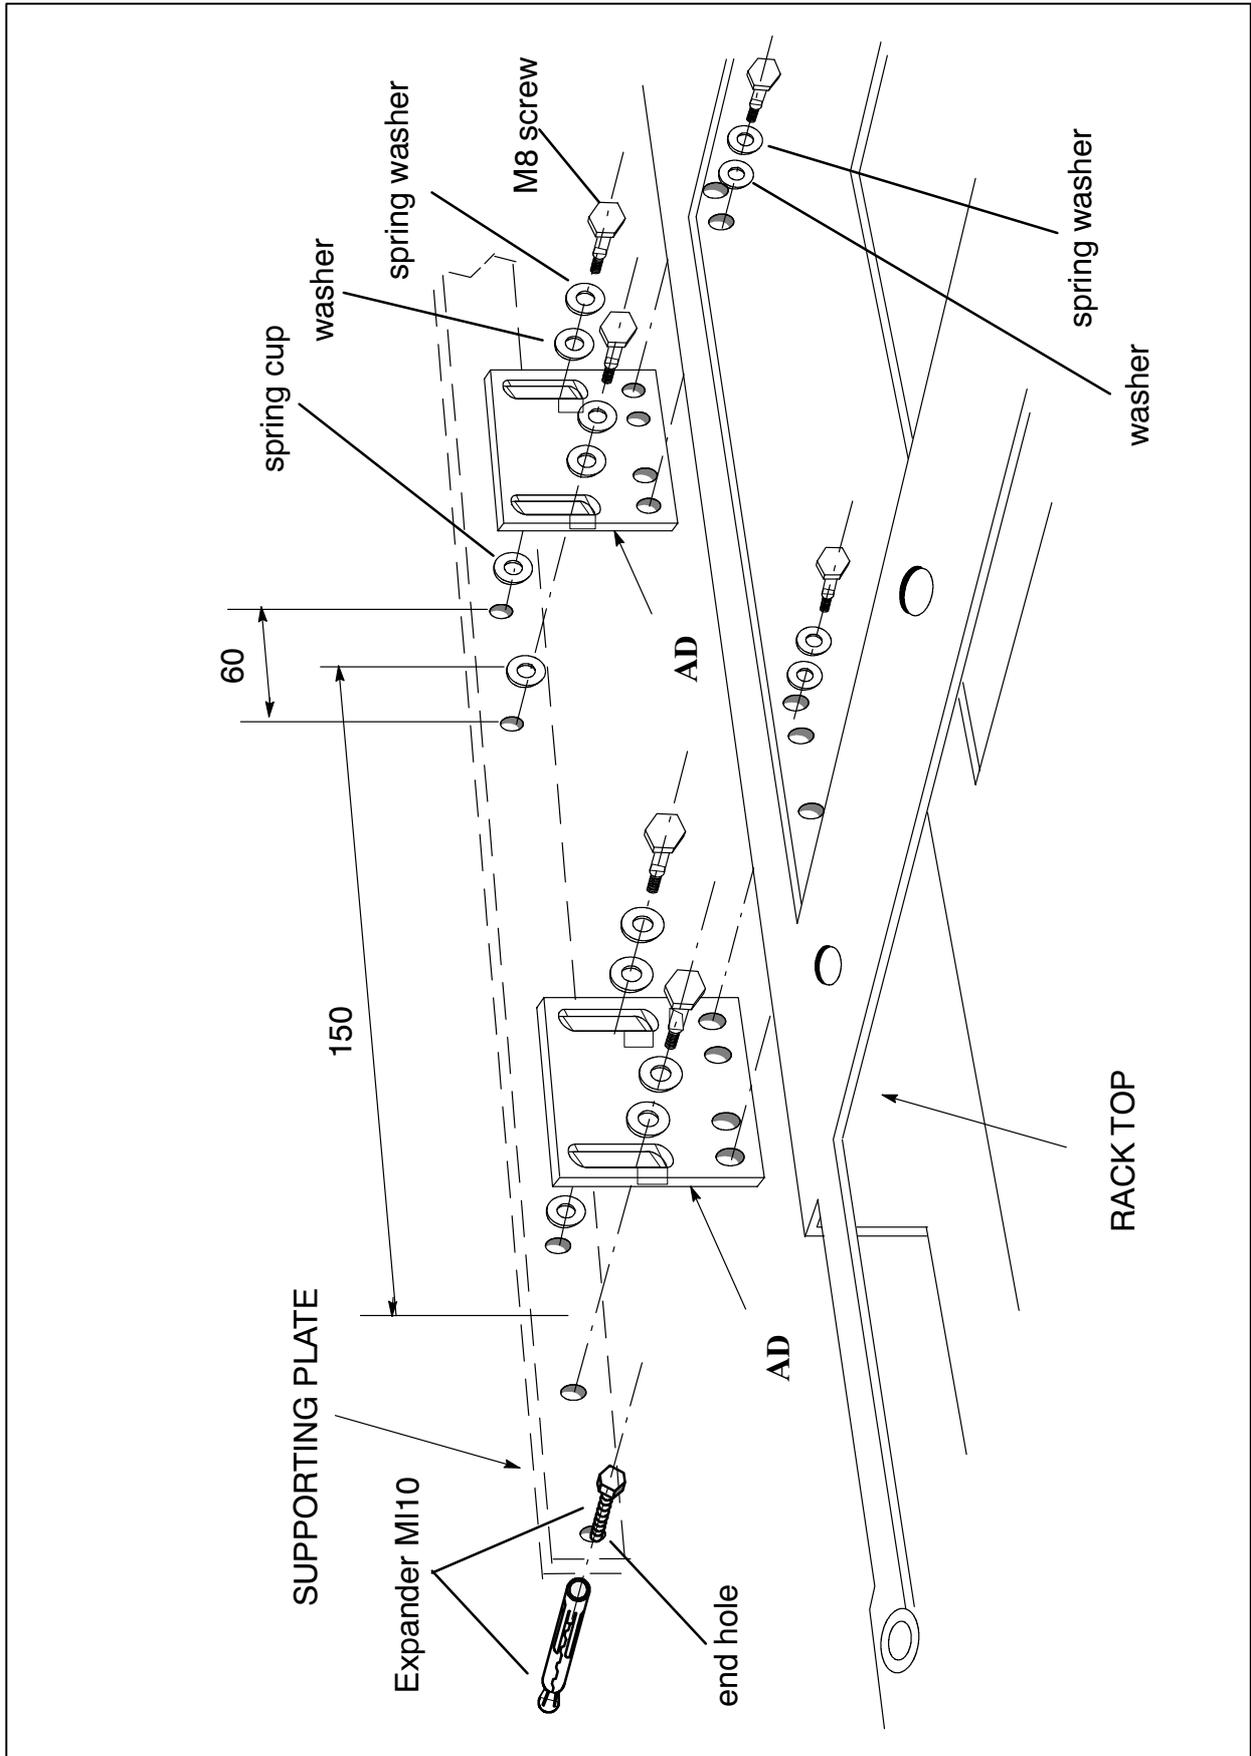
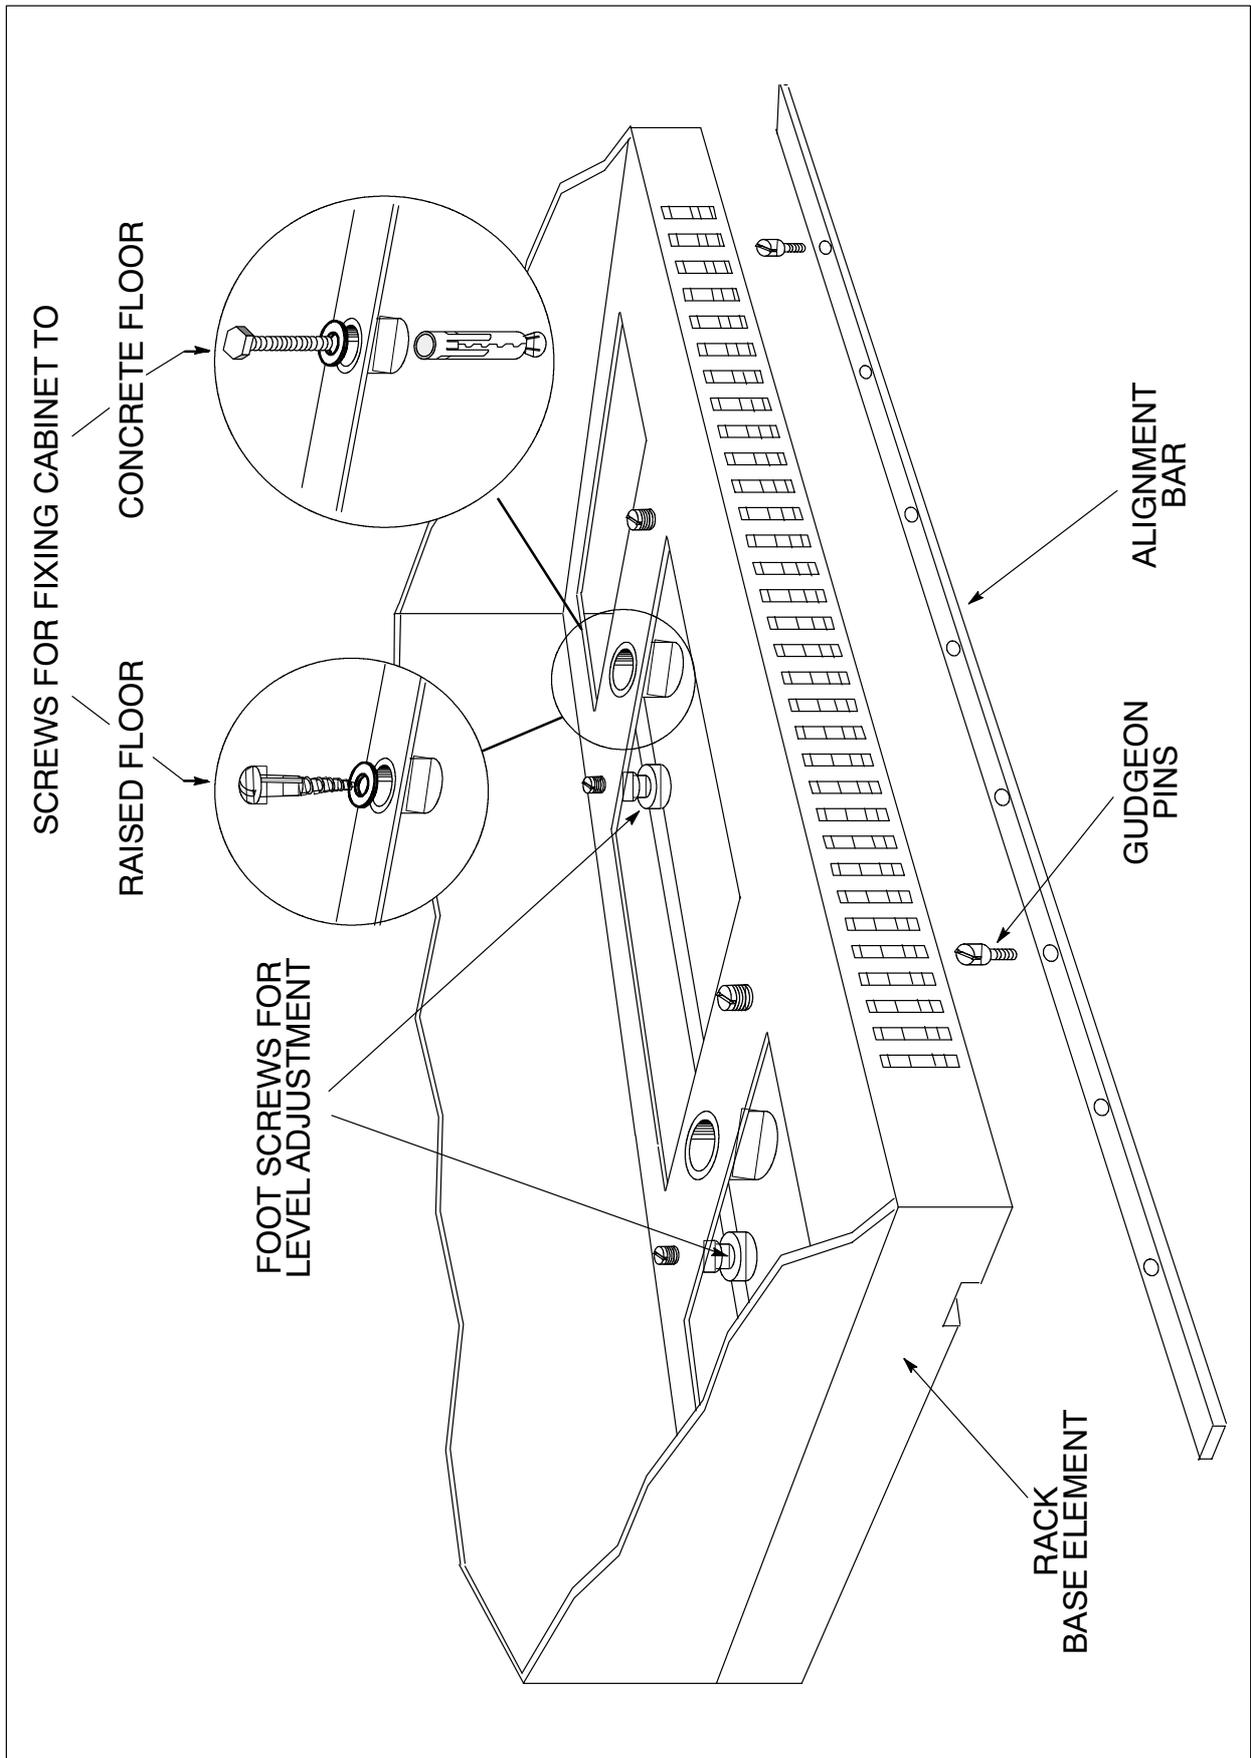

Fig. CC-7 Exploded view of wall fixing
Fig. CC-8 Rack mounting - view of rack base element
Fit the expander screws into the holes (end holes) in the supporting plate (Fig. CC-7).
3. Fit two 6x10mm screws with 6.4x11mm spring washers into the holes at the back of the rack top and into two holes (odd or even) of each fixing plate (Fig. CC-7).
7. Insert two 8x12mm screws into the slots of the fixing plate and tight them partially (Fig. CC-7); similarly, insert the expansion bolts into the holes of the rack base and partially screw them in the expanders (Fig. CC-8).
9. Using the plumb line, check that the rack is perfectly vertical and, if required, suitably adjust the foot screws in the rack base using the adjustment screws (Fig. CC-8).
4. Using the plumb line, check that the rack is perfectly true to vertical and, if required, suitably adjust the feet in the rack base element (Fig. CC-8).
6. Using the plumb line, check that the racks are perfectly true to vertical and, if required, suitably adjust the feet in the rack base elements. (Fig. CC-8).